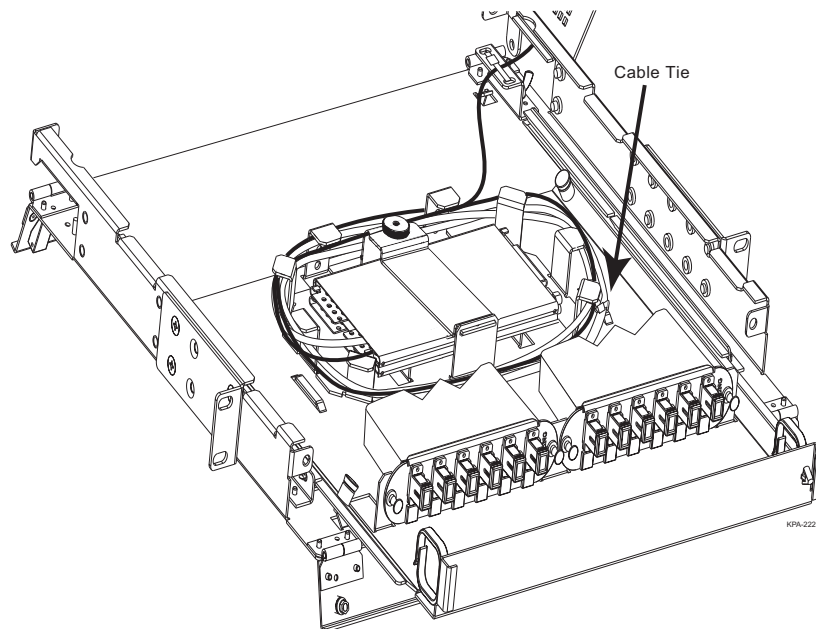

Figure 8 — Install Splice Tray Kit
- Step 2:** If you intend to splice inside the PCH-01U unit using the Splice Tray Kit (p/n PC1-SPLC-04R), remove the radius control guides and install the splice tray kit per the instructions provided with it. Route cable slack around kit and into the splice trays. Splice per the instructions provided with the splice tray (Figure 8).